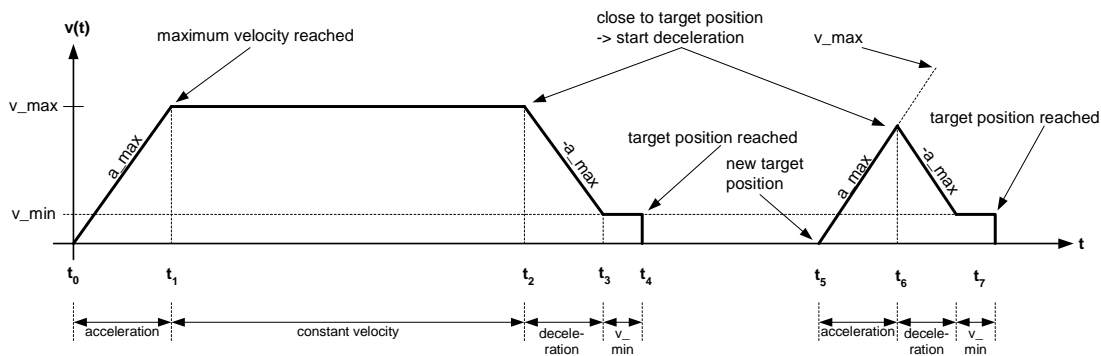

Figure 1: Velocity profile in ramp mode
- In the **Ramp-Mode** the maximum acceleration (a_{max}), maximum (v_{max}) and minimum (v_{min}) speed and the target position (x_{target}) are specified to calculate the actual velocity. By giving the target position, the TMCM-302 calculates the speed profile of each stepper motor from the current position and the specified parameters and immediately converts it into a motion sequence. In Figure 1, an example of the motion sequence is shown. Here the motor accelerates from t_0 onwards with a_{max} till it reaches v_{max} in t_1 , then it moves itself with v_{max} up to t_2 , it then slows down with a_{max} till it reaches v_{min} in t_3 and then it travels with v_{min} till it reaches its target (x_{target}) in t_4 . On the right side of the Figure it can be seen that v_{max} cannot be reached if a_{max} is too small or the target (x_{target}) is too close.